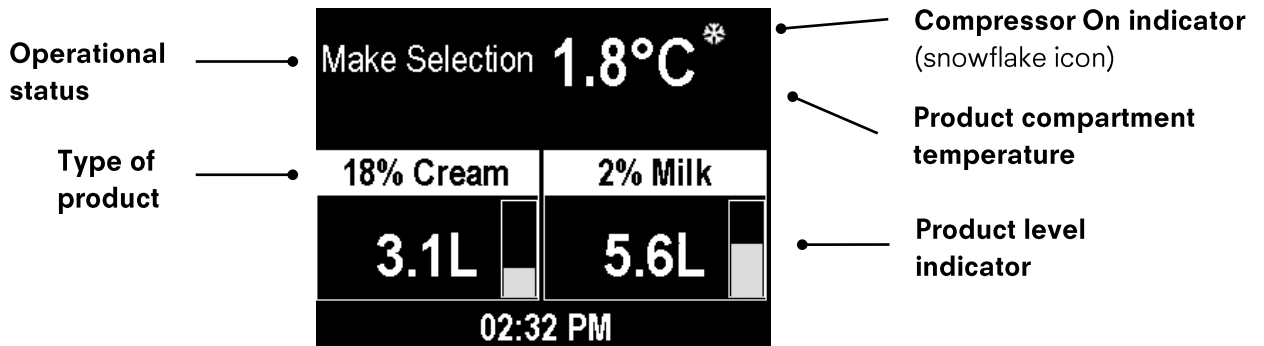

Figure 6: Two product dispenser display in normal operating mode
- There are no notifications (Figure 6).
With the dispenser door closed, the correct product(s) will be shown on the display (Figure 6). For dispensers with more than one product, it is crucial to identify the correct location within the product compartment for each product according to the software (e.g., 18% cream installed above the left valve). To change the default product(s) or a product location refer to the instructions for Products in the SOFTWARE FEATURES section of this manual.